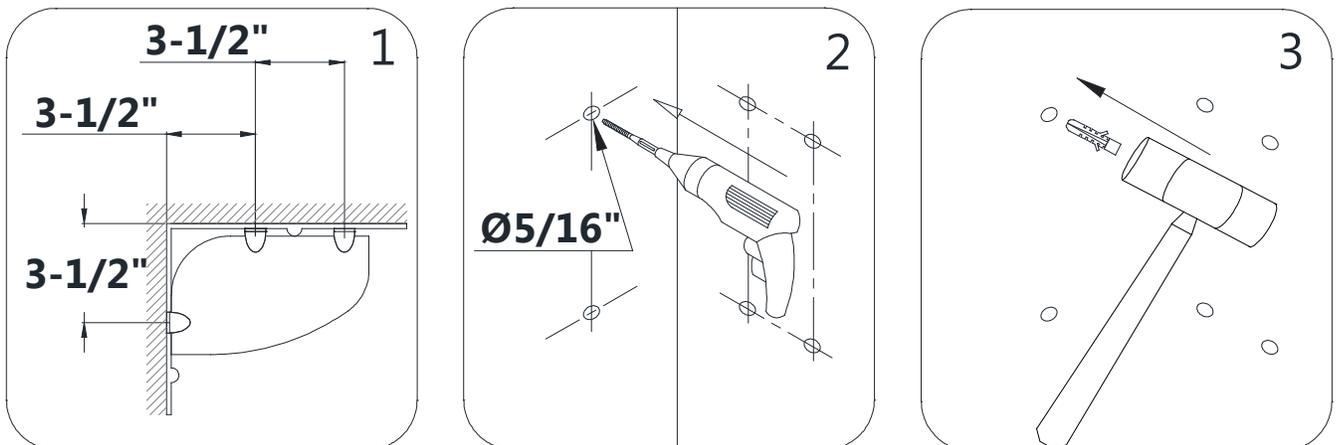

Fig 26
26. Mark the location for the **Shelf Brackets (#10)** according to the measurements in Fig 25.1. Drill the holes using **Ø5/16"** drill bit and insert the **Wall Anchors (#06)**. (**Fig 26**)